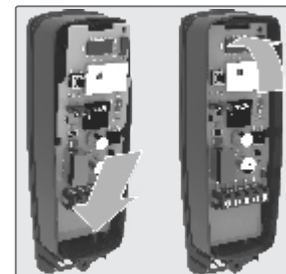

Figure 5.
8. Tuck the base of the PCB into the ribs situated at the base of the plastic enclosure. Thereafter swing the PCB into place so that the top lever prevents it from falling out. There should be an audible "click" to lock the PCB in position. Refer to figure 5.